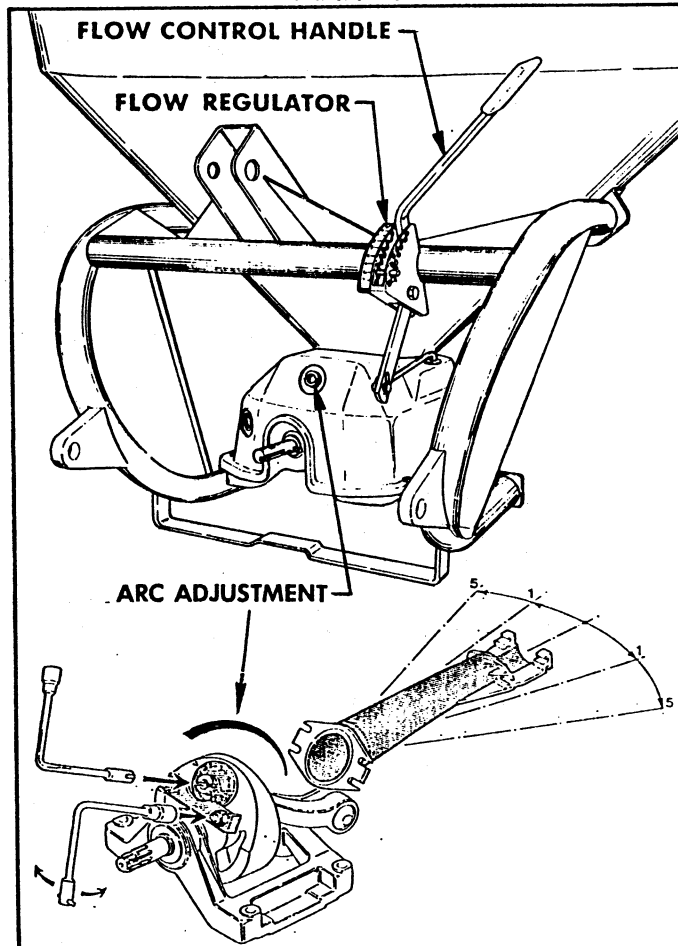

FIG. 2
- Turn the Spreader Sprocket by hand until the arc adjuster appears in the opening. See FIG. 2.